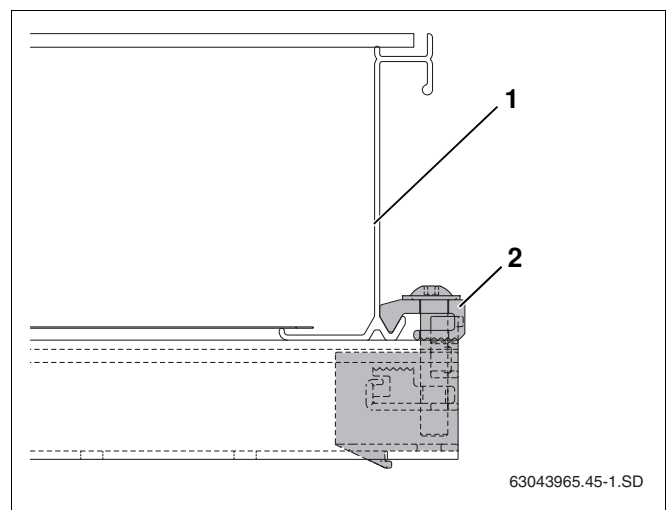

Fig. 46 Single-sided collector clamp screwed in place
- Carefully push collector (Fig. 46, **Item 1**) up against the single-sided collector clamp and align horizontally.
- Screw in single-sided collector clamp using size 5 spanner (Fig. 46, **Item 2**).
The grip (Fig. 46, **Item 2**) on the collector clamp now grips the lower collector edge.